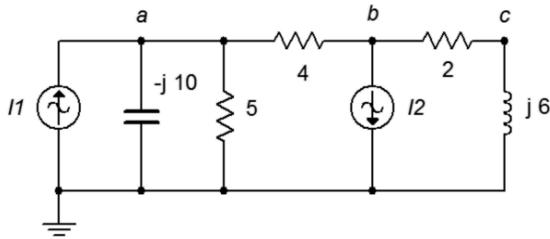

Figure 5.10
19. Use Superposition in the circuit of Figure 5.10 to find the currents through the inductor and capacitor.
20. Use Superposition in the circuit of Figure 5.10 to find  $v_{ab}$  and  $v_{bc}$ .  $I_1 = 1\angle 0^\circ$  and  $I_2 = 2\angle 90^\circ$ .